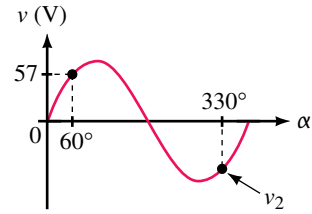

FIGURE 15–83
23. If the period of the waveform in Figure 15–82 is 180 ms, compute current at $t = 30, 75, 140,$ and 315 ms.
26. For the waveform of Figure 15–83, determine v_2 .